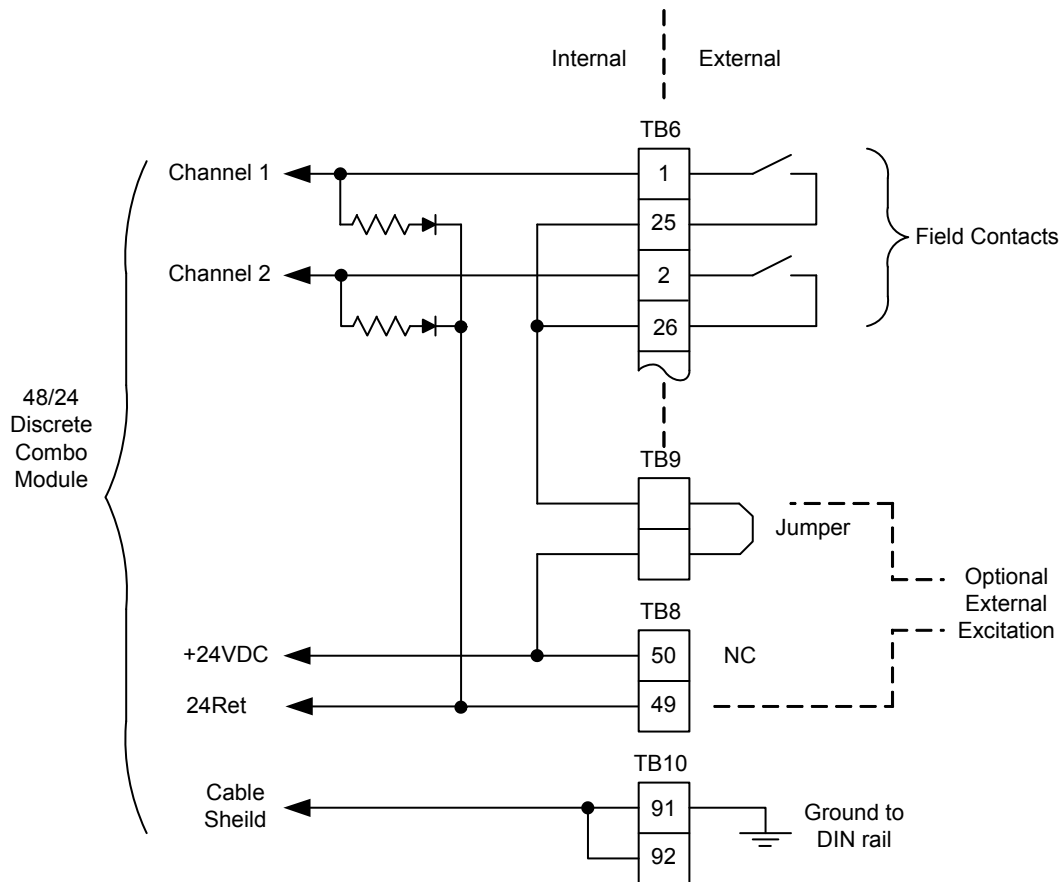

Figure 4-12. Discrete Input Wiring to a 24/12 Discrete FTM
The 24 contact inputs found on a Discrete FTM are located on terminals TB6, 1 - 12 and TB7, 13 - 24. When internal power is used, wetting voltage is taken from terminals TB6, 25 - 36 and TB7, 37 - 48. See Figure 4-12 for a wiring example.
- Refer to Figure 4-12 for Contact Input wiring connections to the FTM.
- If the internal 24 Vdc is used, a jumper must be added to tie the internal 24 Vdc to the bussed power terminal blocks (see Figure 4-12).
- If an external 24 Vdc is used, the common for the external 24 Vdc must be tied to the discrete input common (see Figure 4-12). Power for contacts must be supplied by the control's power supplies, or the external power supply outputs must be rated to Class II at 30 Vdc or less and outputs must be fused with appropriately sized fuses (a maximum current rating of $100/V$, where V is the supply's rated voltage, or 5 A, whichever is less).